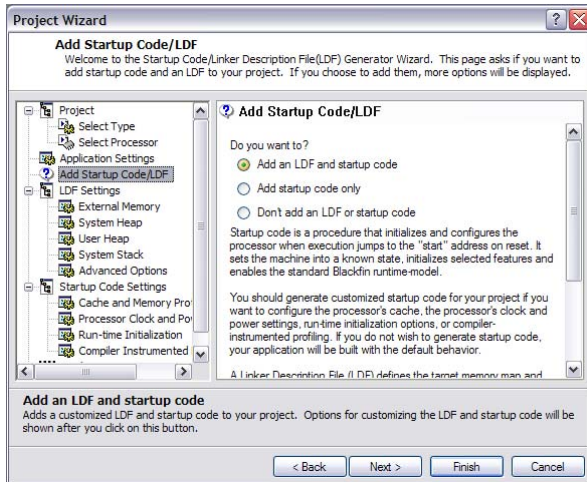

Figure 26. Project Wizard: Add Startup Code/LDF
The Project Wizard offers the possibility to create a project that includes support for memory protection and cache for both instruction and data memory. Figure 26 through Figure 30 show the additional actions required:
1. .LDF file and startup code must be added (Figure 26).